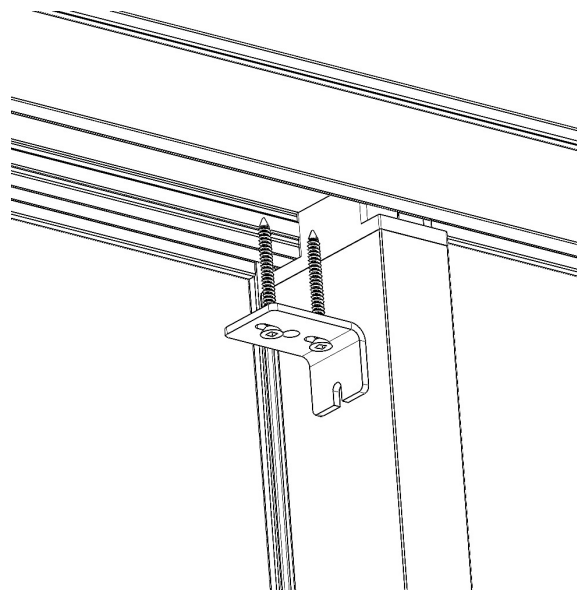

Figure 11
19. With the frame head parallel with the sill assembly, secure the fixed panel. Position the fixed clip into the head, using the clip pre-drilled holes as a guide, drill clearance holes for assembly screws. Anchor the fixed clip to the frame head with a pair of #10 x 2" PH Flat Head screws. (See Figure 11)